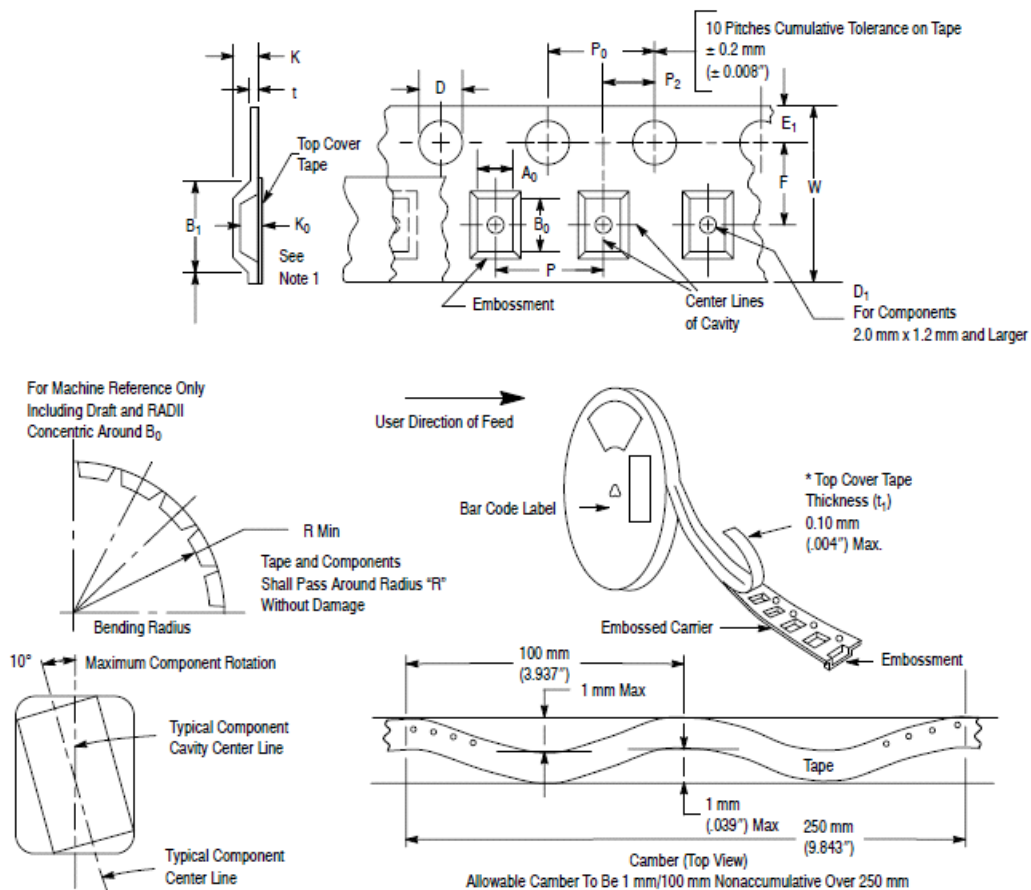

Figure 21. Tape and Reel Example
- Freescale complies with EIA-481B and EIA-481C for carrier tape and reel configuration – See Figure 21